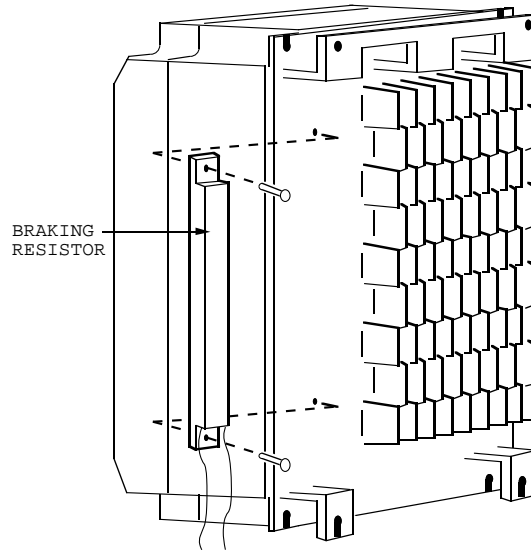

Figure 1. Mounting Braking Resistor on Heat Sink of GPD 503 or VCD 703
5. Mount the braking resistor on the back of the drive's heat sink, as shown in Figure 1.